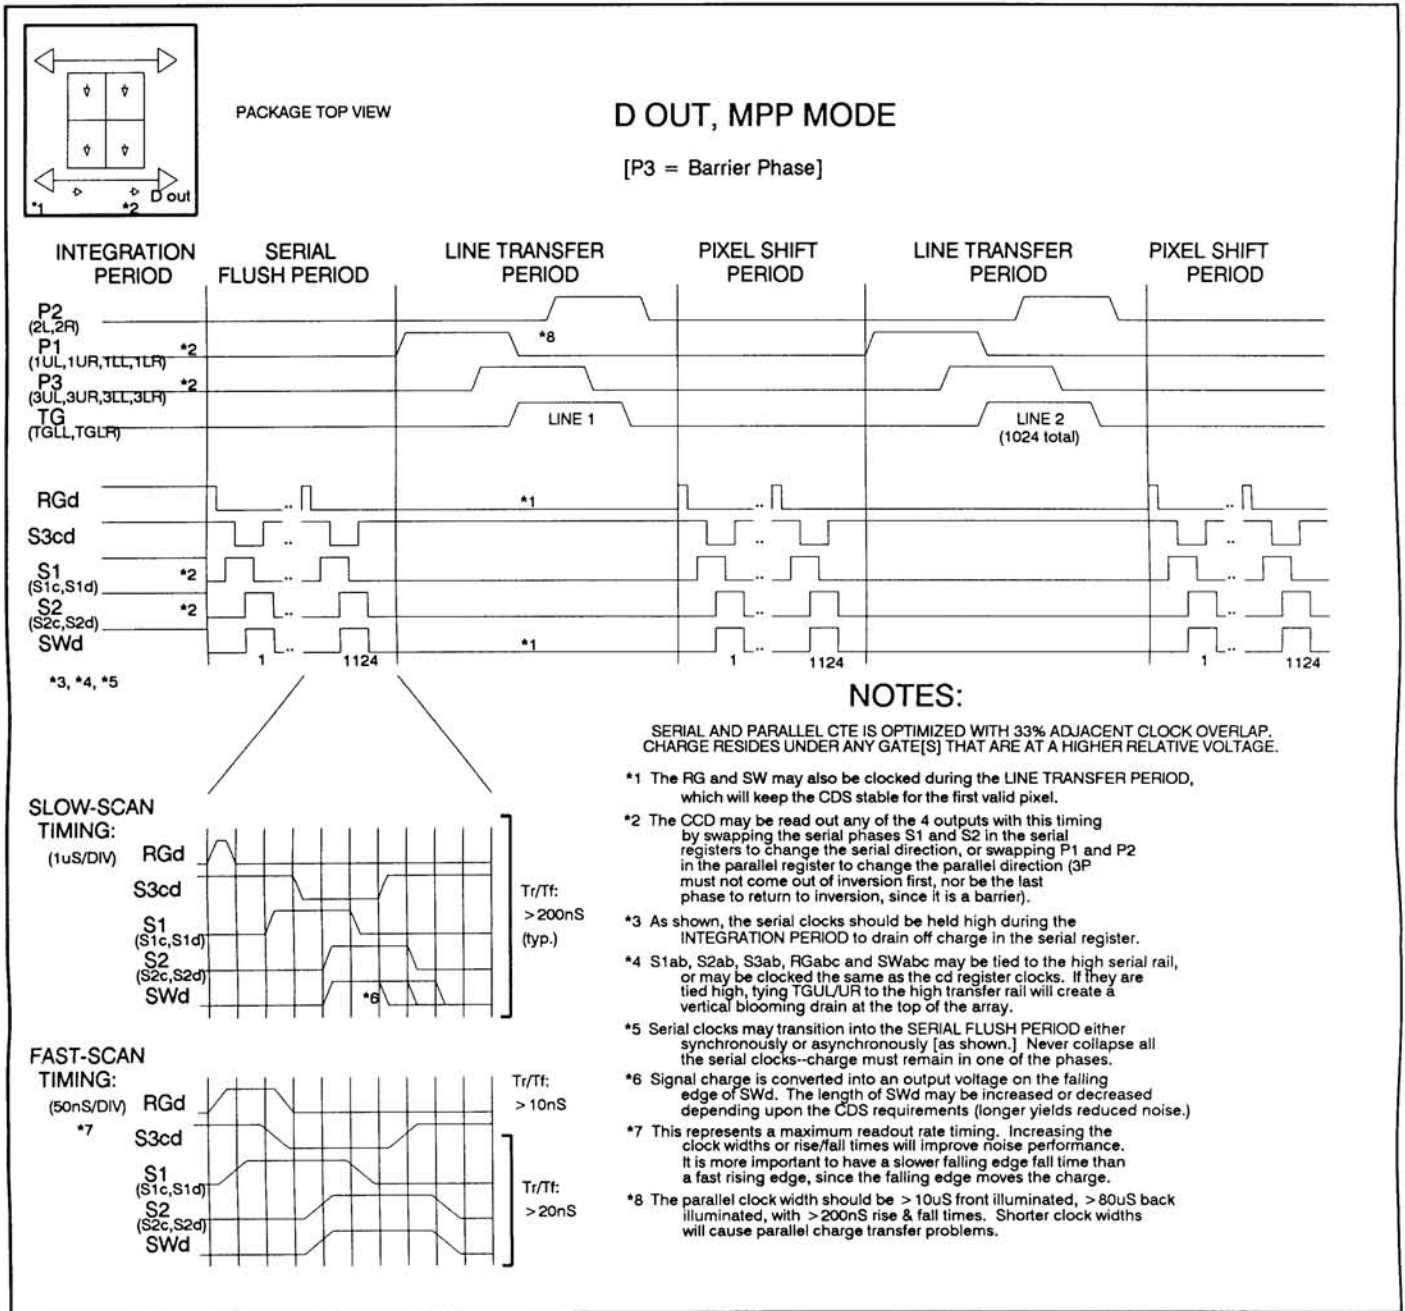

Figure 4: Full-frame, Single-output MPP Operation
Timing Diagrams shown on the following pages (Figures 4,5,7, and 9).
**Table 3: TK1024A Pin Definitions [The timing diagrams of Figures 4, 5, 7, and 9 are valid for front and back illuminated devices as long as the above pin nomenclature is strictly adhered to.]**